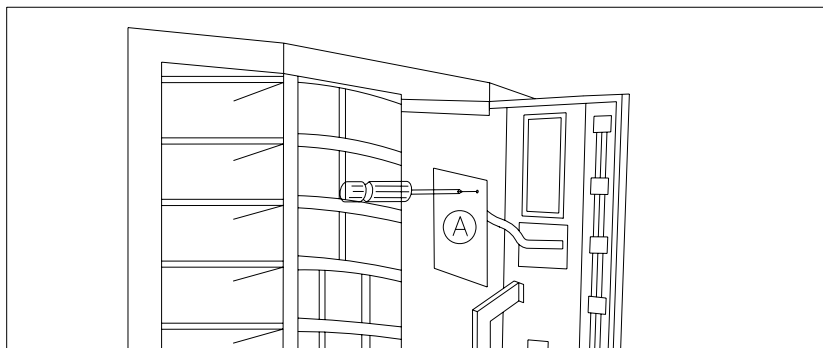

FIG. 14
- 3) Open the coin mechanism compartment door and remove the protection cover Fig. 14, loosening the corresponding clamping screws with a cross point screwdriver.